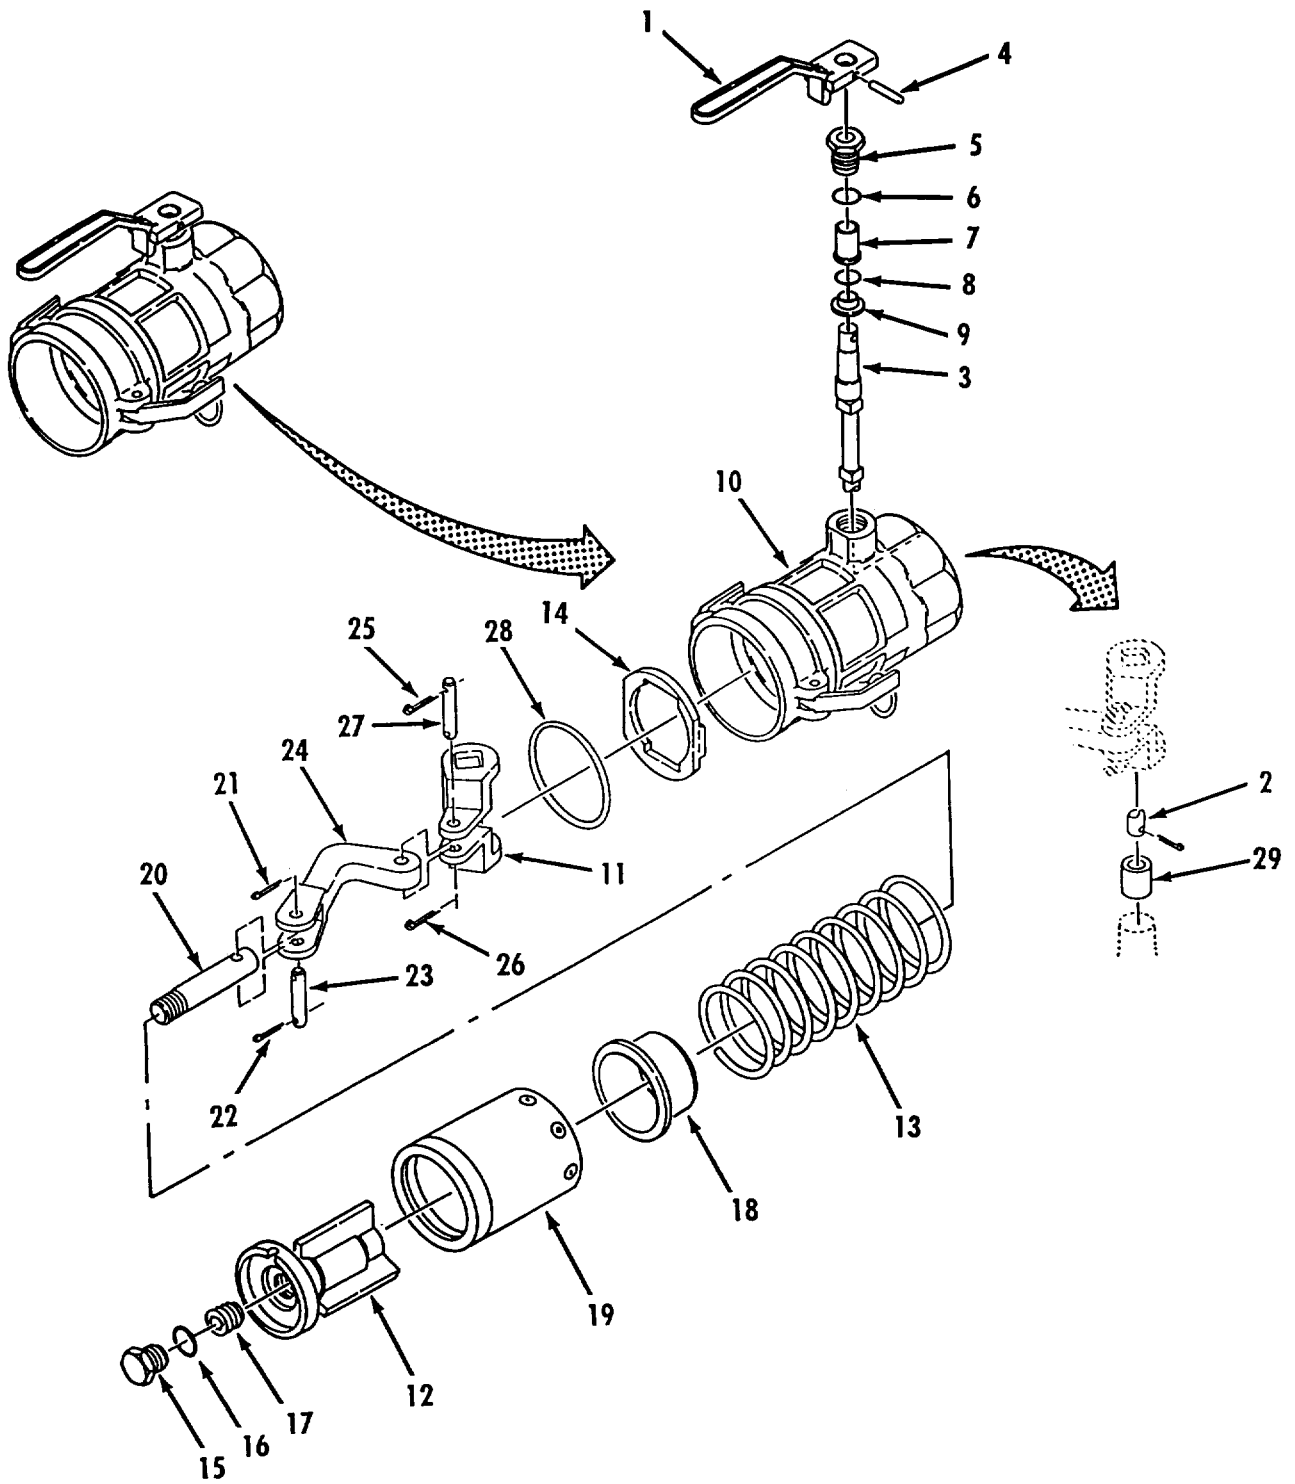

Figure 4-8. Coupler Repair.
Disassemble Coupler. Refer to figure 4-8.
c. Repair. Replace damaged or defective parts and all sealing components.d. Assembly. Refer to figure 4-8
- (1) Install bushing (29) in body (10)
- (2) Install washer (14) with tabs facing inward in body (10).
- (3) Apply lubricant to packing and install in body (10).
- (4) Aline link (24) with yoke (11) as noted during disassembly and install pin (27).
- (5) Install cotter pins (25 and 26) in pin (27).
- (6) Aline stem (20) in link (24) and install pin (23).
- (7) Install cotter pins (21 and 22) in pin (23).
- (8) Install setscrew (17) in poppet (12). Setscrew must be turned in the same amount as recorded during disassembly.
- (9) Position poppet guide (18) and cylinder (19) over stem (20).
- (10) Insert poppet (12) into cylinder (19) and screw poppet (12) onto stem (20) until it stops, then tighten.